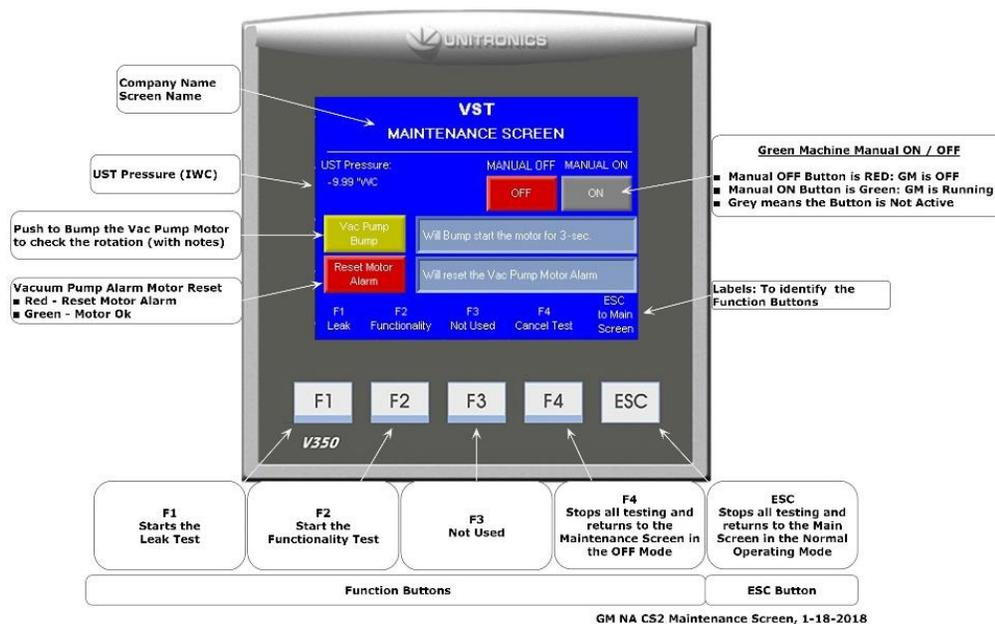

Figure 7-3: Maintenance Screen
**See Figure 7-3.** (The GREEN MACHINE is now in the Manual OFF mode and will not operate.)